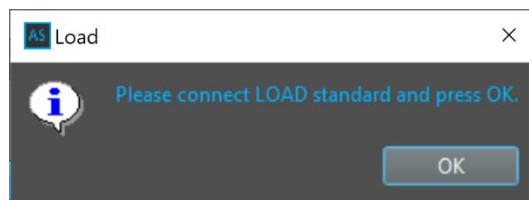

Figure 11-65: Load calibration - OK
14. In the OSL Calibration tabbed page, click Start Load Calibration. In the Load calibration dialog, click OK as shown in Figure 11-65. Wait for the calibration to finish.